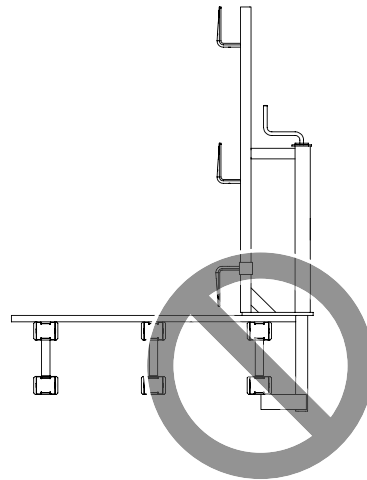

Fig. A4.01
- Mounting the Guardrail Holder-2 crosswise to the formwork girder or timber is not allowed. (Fig. A4.01)